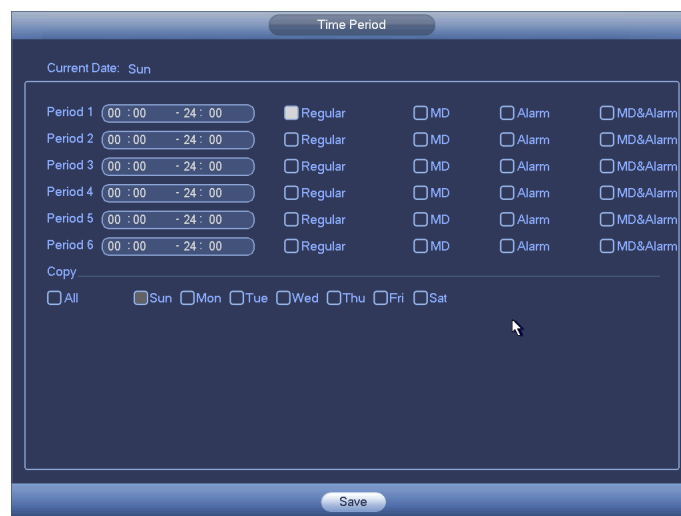

Figure 4-37
- Period setup: Click button  after one date or a holiday, you can see an interface shown as in Figure 4-37. There are four record types: regular, motion detection (MD), Alarm, MD & alarm.